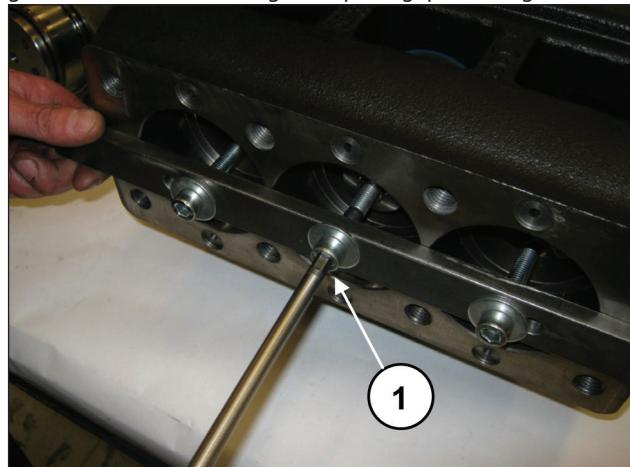
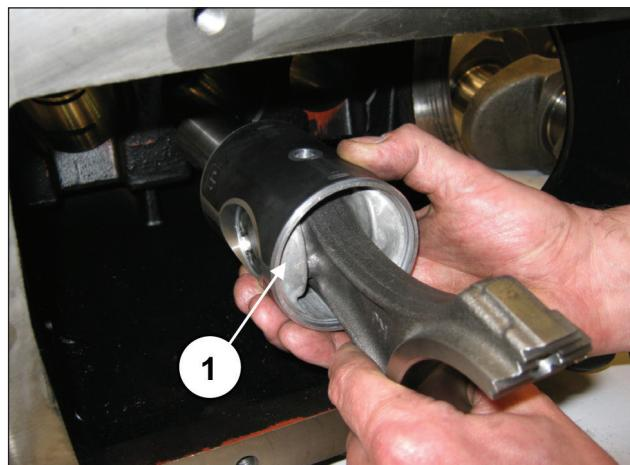

Fig. 32
Fig. 33
Unscrew the screws with tool code 27566200 to unlock the conrods (pos. ①, Fig. 32) and then extract the conrod-piston guide units from the casing rear opening (pos. ①, Fig. 33).
Remove the tool for blocking the conrods code 27566200 (pos. ①, Fig. 32).